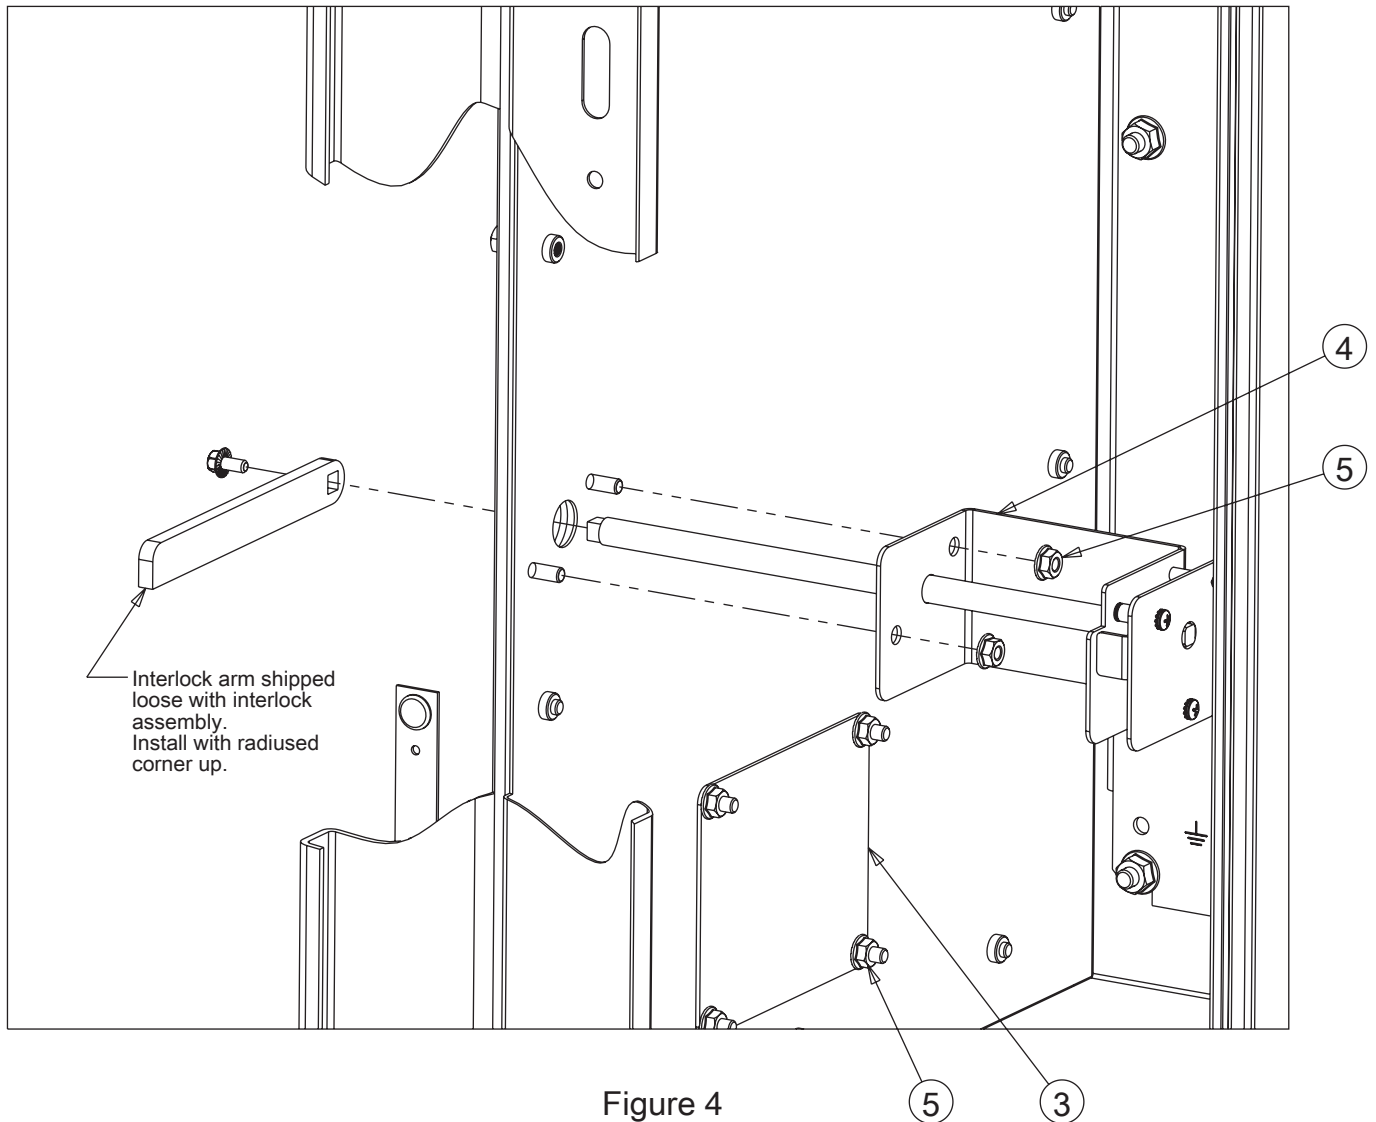

Figure 4
- Referring to Figure 4, with the interlock arm removed, install the control enclosure interlock (Item 4) with the shaft passing through the hole in the Sequestr enclosure and into the control enclosure. Secure the door stop with two M6 lock nuts (Item 5).